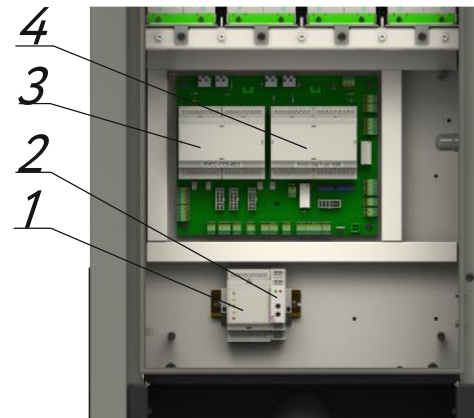

Figure 7.12. Charge controllers
2. Controllers 3, 4 (Figure 7.12) are installed on the board (marked as EVCC-CH-XXX, EVCC-CCSXXX, EVCC-GBT-XXX, EVCC-AC-XXX). To replace the charge controllers 3, 4 (Figure 7.12), they must be pulled out by pulling them to the opposite side of the board.
The twilight relay (Figure 7.13) is installed on a DIN rail. Its location depends on the configuration of the station. For example, at the station (Figure 7.12), the relay is located next to the modem.